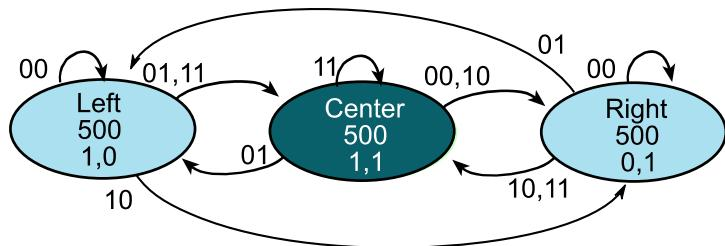

Figure 1. Moore FSM state graph to implement line following. The time in each state is shown in 1ms units.
The Lab07\\_FSM starter project implements the three-state FSM shown in Figure 1, which we could use to implement a line-following robot. The 500 is the time to wait in each state in ms. On the real robot, we set these delay times to be much shorter, depending on how fast the mechanical robot responds to actuator commands. However, in this lab, the 500 ms is chosen to make it easy to see the output with our eyes.
- 1) The FSM in Figure 1 gets confused (has a bug) if the robot is off little bit to the left (input is 01, and the machine is oscillating between the Left and Center states) and then goes completely off the line to the left (input is 00). In this machine, if it happens to be in the Center state when it goes off the line, it will incorrectly move to the Right state even though the robot went off to the left. You will solve this problem by implementing two left states (so it oscillates between